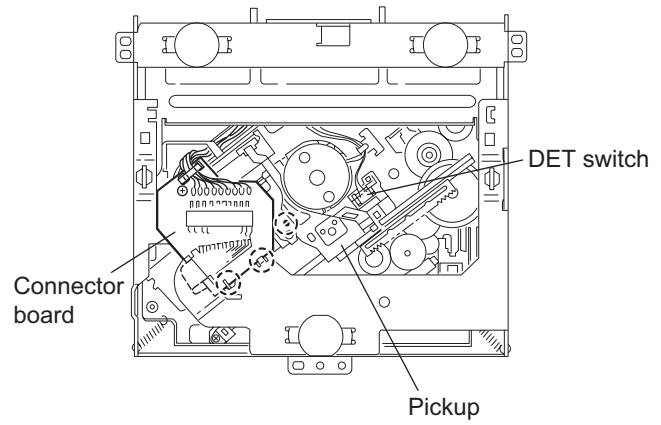

Fig.6
2.2.3 Removing the DET switch (See Figs.6 and 7)